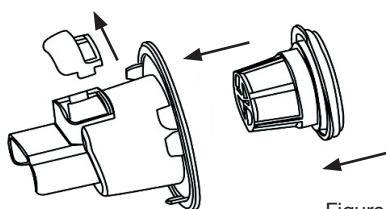

Figure 8
4. Turn the fine particle filter to extract from the pre-filter (Fig. 8).